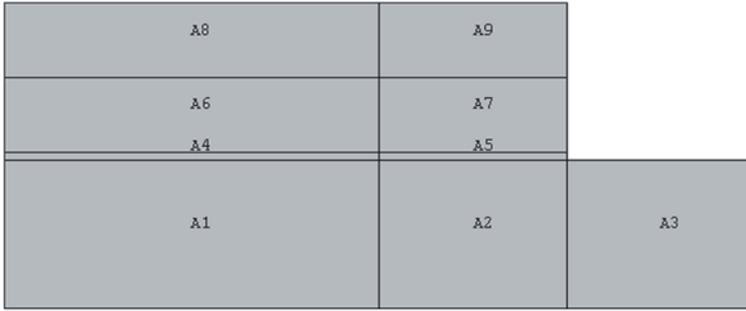

Fig. 8.59 Solid model of the electronic package
- Create rectangles as identified in Fig. 8.59 (**RECTNG** command) using the following menu path: